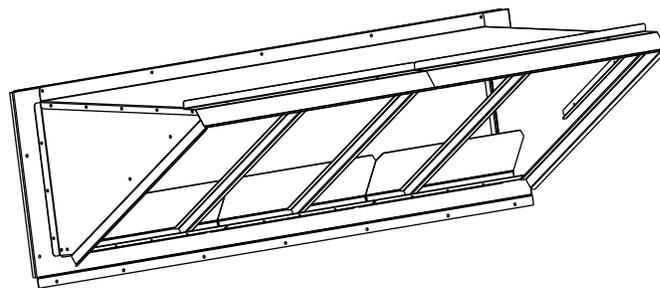
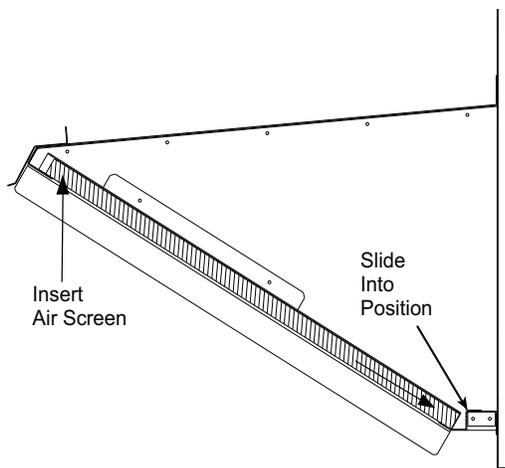

Fig. 22 — Completed Hood Assembly
Fig. 21 — Outdoor Air Screen Installation
12. Install outdoor air screens by sliding them into each of the four spaces created by the hood, filter support and central retainers. To do so, first insert the air screens into pocket created at the end of hood (Item 3), then fully put the air screen into place, and then slide them back into pocket created in the filter support (Item 1). Repeat this for each air screen (see Fig. 21). See Fig. 22 for completed hood assembly.